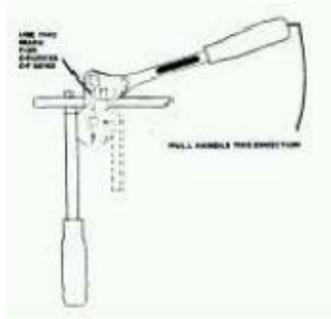

Figure 8-39. Lowering the Form Handle
3. Lower the form handle to position shown. (Figure 8-39)
5. Degree of bend is indicated by mark on form handle and shown in Figure 8-39. Bends up to 180 degrees can be made in one sweep of the handle.